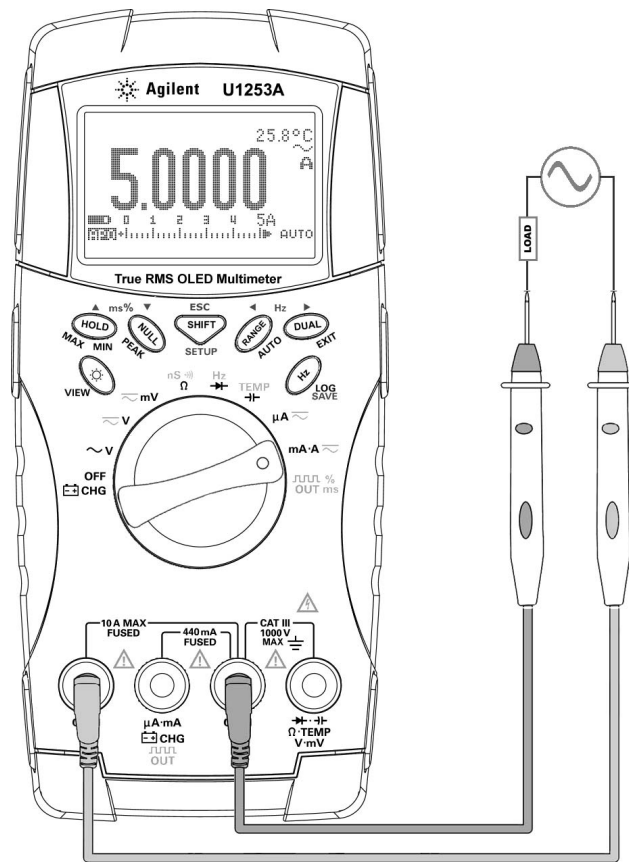

Figure 2-5 A (ampere) current measurement
- 2 Connect the red and black test leads to 10 A input terminals **A (red)** and **COM (black)** respectively (see Figure 2-5). When the red test lead is plugged into the **A (red)** terminal, the multimeter is automatically set to  measurement.